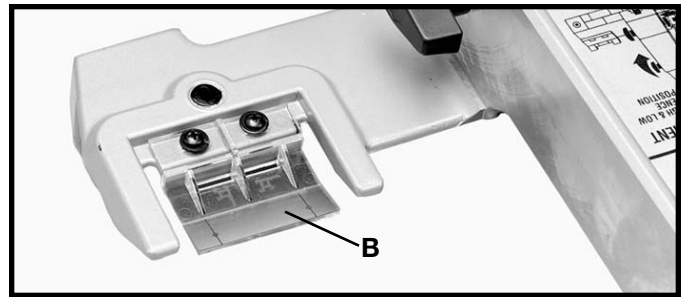

Fig. 61
2. Fig. 61 illustrates the cursor (B) assembled to the Unifence body. Adjustment to the cursor (B) will be made later.